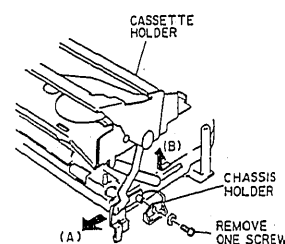

Fig. 2-54
6. Remove one (1) screw holding the cassette holder and chassis holder. (See Fig. 2-54)
7. Move the front arm of the cassette holder in the direction of arrow (A).